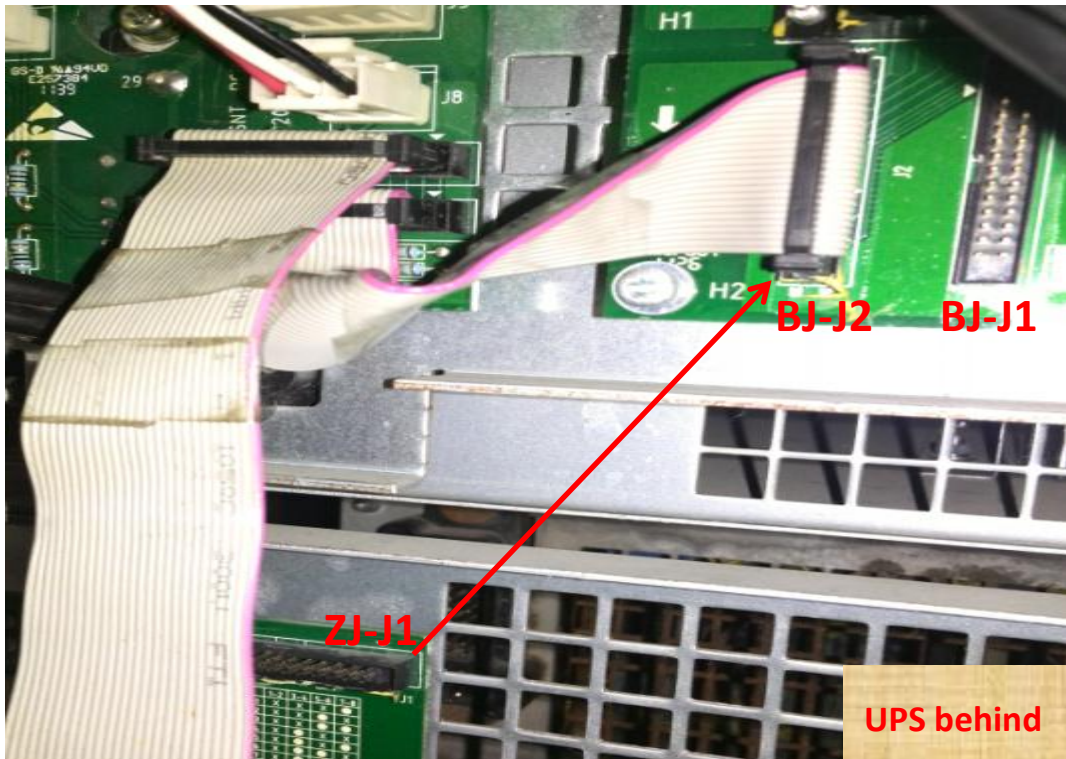

Fig 1.2 Parallel cable
3. After install parallel board to the behind of bypass module, remove cable J1 of “SNT\_SCH\_3320\_ZJ” , and connect to J2 of parallel board, as is shown in fig 1.2.